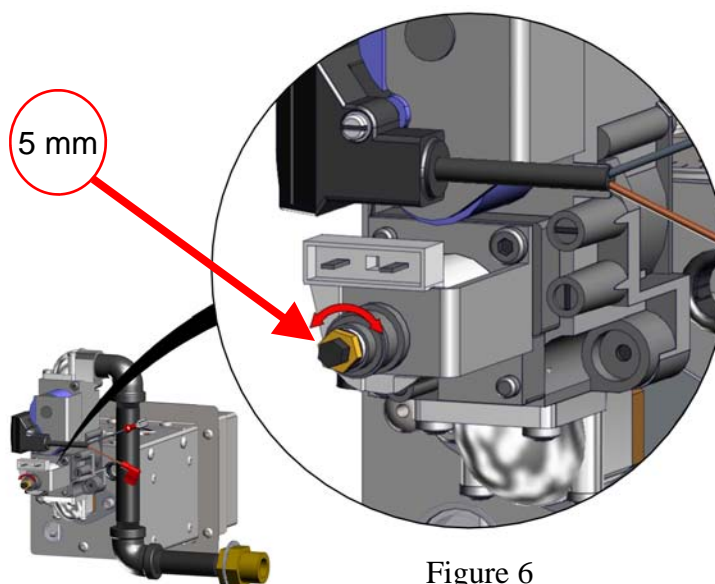

Figure 6
- Using a 5mm socket turn the Low Flame Bias screw (Figure 6) until desired setting is achieved. Use (Figure 5) for correct valve settings.